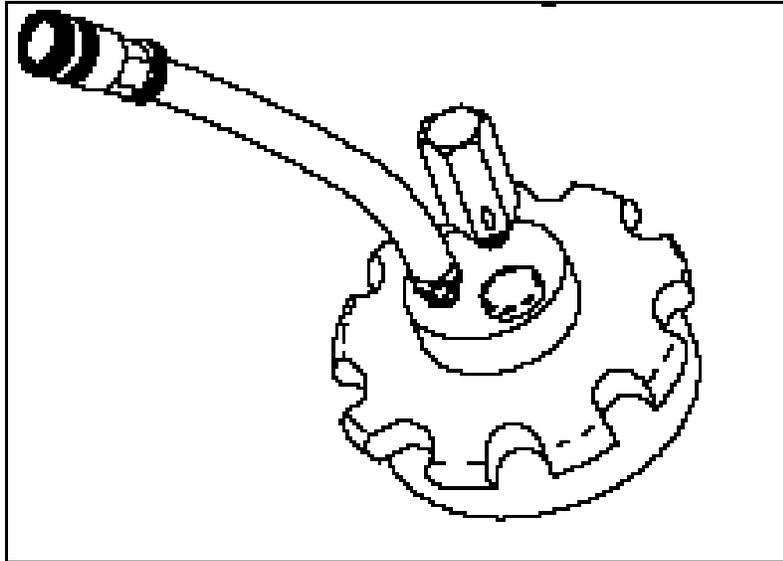

Figure 6
(7) Gravity Feed Adapter. Figure 6 This adapter installs in a standard issue plastic fuel can and permits fuel to flow by gravity from the fuel can to the H-45 Type II (Liquid Fuel) Heater.